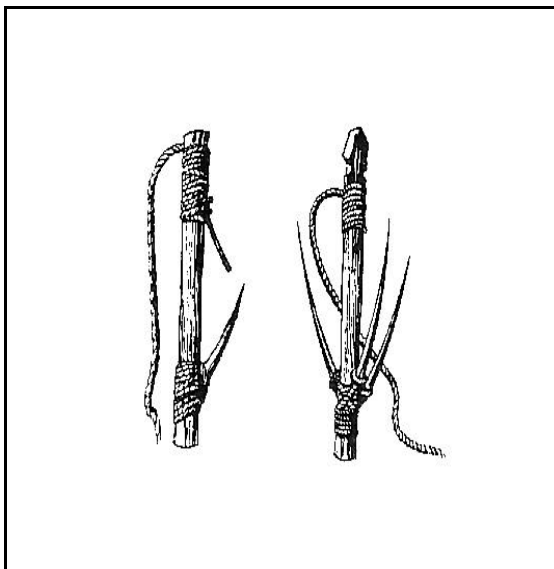

Figure 10-37. Fishhooks Made From Wood
- Fishhooks can be made from wood split from the lifeboat. This wood is notched and held together with thread from the equipment or unraveled from cloth (Figure 10-37).